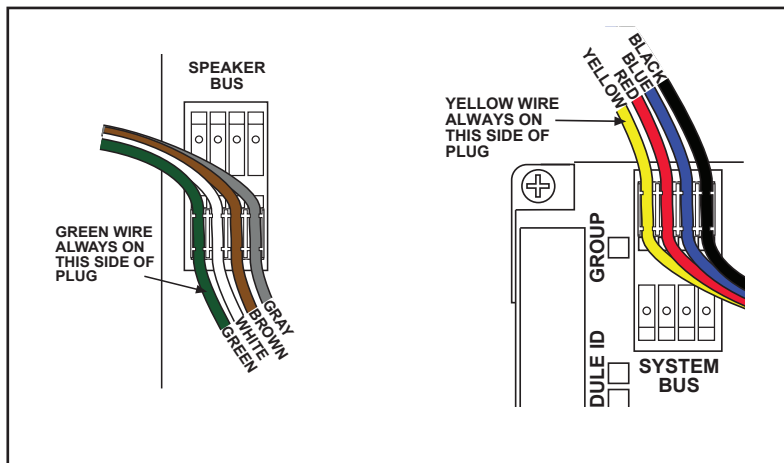

Figure 36. Observe correct polarity for all bus connections.
- Check the System Bus and Speaker Buses for correct polarity, and make sure the keyed plug is engaged with all four pins on each header and in the correct direction as shown in *Figure 36*.